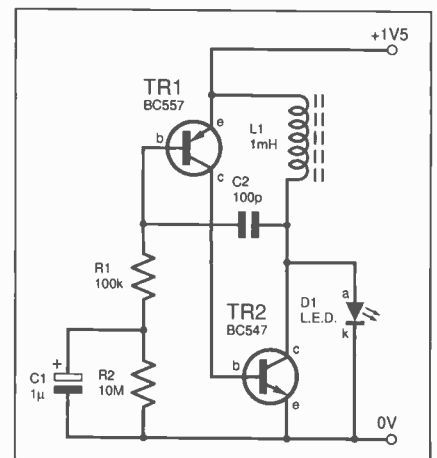

Fig.1. Cheap L.E.D. Blinker circuit.
**T**HE OBJECTIVE of the circuit of Fig.1 was to flash an l.e.d. once per second, using a 1.5V battery, at such a low current that it would last up to the shelf life of the battery. The solution uses two transistors and is cheaper than using a custom l.e.d. flasher chip.